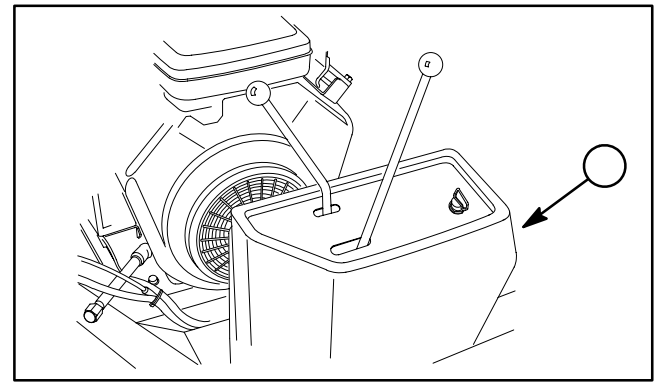

Figure 16
4. Remove control cover from machine (Fig. 16).
2. Position hydraulic pump assembly to the support bracket. Secure pump to the pump support with removed fasteners. Make sure that spacers (items 10 and 18) are positioned between bracket and pump.
6. Install control cover to machine (Fig. 16).